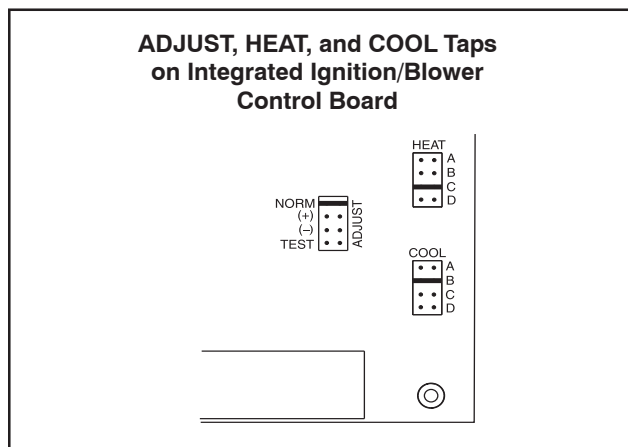

Figure 46
2. When this unit is running in the heating mode, the indoor blower will run on the heating speed designated by the positions of DIP switches 1 (A,B,C,D) of the HEAT jumper plug. See Figure 46.
The units are factory set for the highest airflow for each model. Adjustments can be made to the cooling airflow by repositioning the jumper plug marked COOL – A, B, C, D (see Figure 46). To determine what CFM the motor is delivering at any time, count the number of times the amber LED on the control board flashes. Each flash signifies 200 CFM; count the flashes and multiply by 200 to determine the actual CFM delivered (for example: 5 flashes x 200 = 1000 CFM).
These units are factory set to run at the middle of the heating rise range as shown on the unit rating plate. If higher or lower rise is desired, reposition the jumper plug marked HEAT - A, B, C, C (see Figure 46). To determine what CFM the motor is delivering at any time, count the number of times the amber LED on the control board flashes. Each flash signifies 200 CFM; count the flashes and multiply by 200 to determine the actual CFM delivered (for example: 5 flashes x 200 = 1000).
Airflow amounts may be increased or decreased by 10% by moving the ADJUST jumper plug (see Figure 46) from the NORM position to the (+) or (-) position. Changes to the ADJUST tap will affect both cooling and heating airflows. The TEST position on the ADJUST tap is not used.